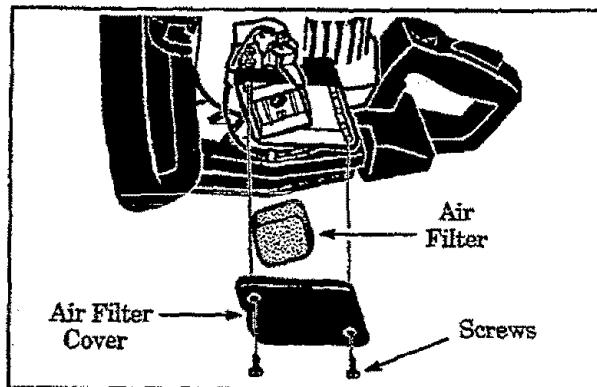

Figure 8
- a. Loosen the two screws on the air filter cover enough to remove the cover from the engine. Figure 8.
- b. Remove the air filter. Figure 8.
- e. Reinstall the air filter cover. Figure 8.